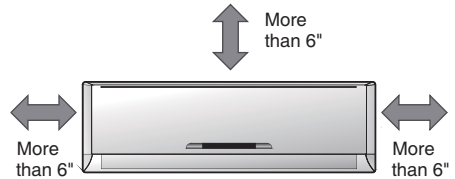

Figure 1.1
4. The installation location must allow for the necessary space around the indoor unit, as shown in the figure 1.1.